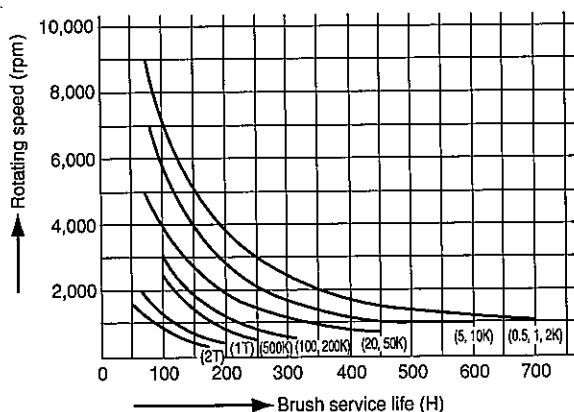

Fig.4 Brush wear in course of time
- 5.4 Wear of the brush is in proportion to the circumferential speed (rotating speed) the transducer has run. Calculate the total operating hours, then confirm the degree of brush wear in Fig.4 below.